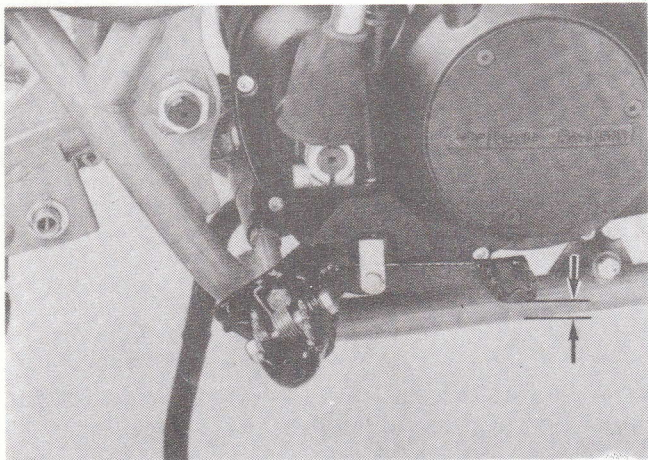
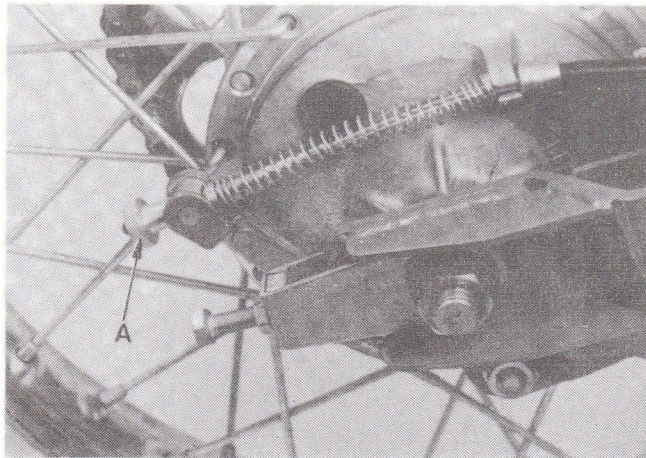

Fig. 8 - Brake pedal free travel
Fig. 9 - Rear brake adjusting nut
Rear brake pedal free travel, measured at the tip of the pedal, should be one inch (fig. 8). Adjustments are performed by means of an adjusting nut (A) fitted at the end of the cable (fig. 9).